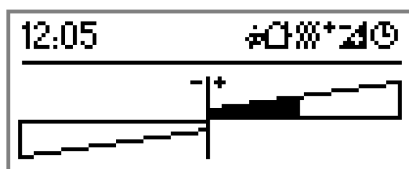

Figure 58: Example of a 2-area display with basic setpoint shifting as a bar graph
- i** In the display function "Setpoint shift as bar graph" (Figure 58) it is not possible to configure any supplementary texts.
With relative setpoint presetting, the push button sensor allows step-by-step shifting of the setpoint temperature within defined limits. This setpoint shift can be performed either using the display buttons (see page 17-18) or using controller extensions in the positive (+) or also in the negative (-) direction. Whether a basic setpoint shift has been performed (i.e. the shift is not equal to "0") in the 2-area display is indicated using the  symbol. Optionally it is possible to display the setpoint shift in the form of a bar graph (Figure 58). In this case the bar graph accounts for the entire menu area, which means that other display functions can no longer be displayed in this display area.